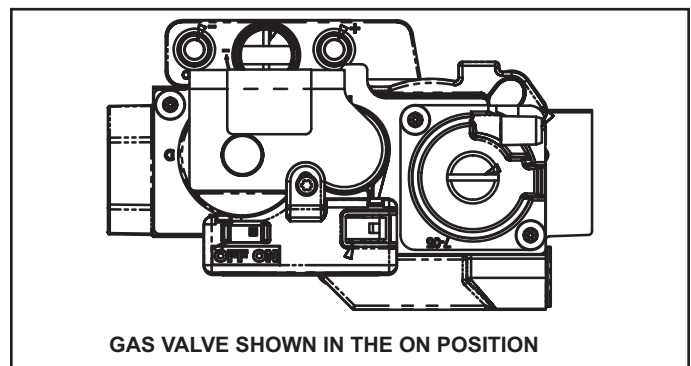

FIGURE 3
### Operating the Gas Valve (Figure 3)
- 6 - Move switch on gas valve to OFF. See figure 3.
- 8 - Move switch on gas valve to ON. See figure 3.